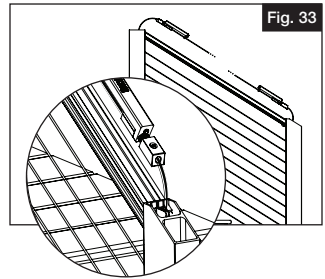

Fig. 33
- 6.** a. Feed cable through tension spring B and tensioner. Place tension spring B and tensioner into top beam at lower post (Fig. 33).